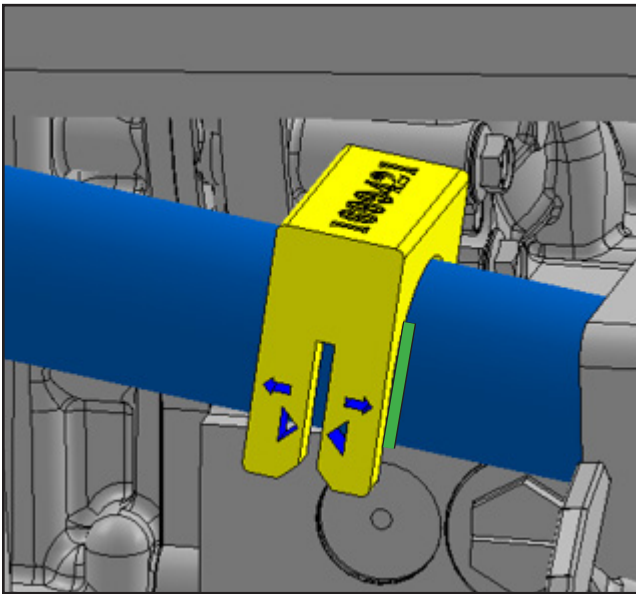

Figure 16
F. Check that the laser line moves to the outside edge of the shaft gauge tool (Figure 16).